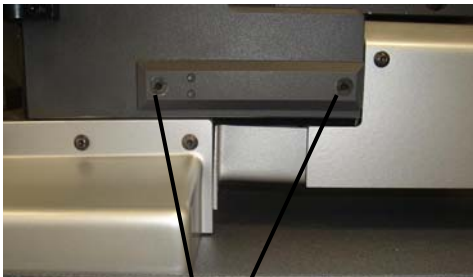
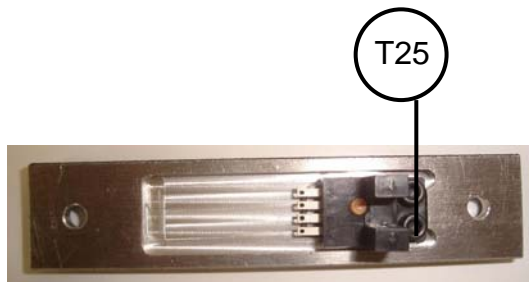

Fig.49
Fig.50
- 2) Unfasten the two cover screws (T24) and the two screws holding the sensor (T25). (Fig.49, Fig.50).